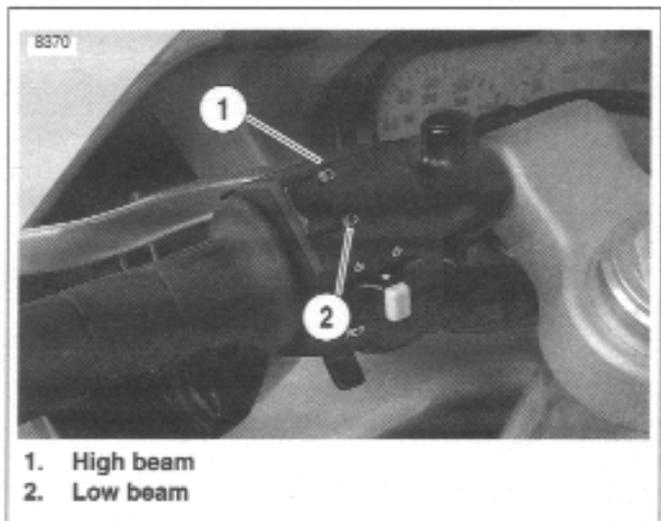

Figure 1-58. Headlamp Switch
a. See Figure 1-58. Turn ignition switch to IGN. Set handlebar headlamp switch to LOW beam position.
a. See Figure 1-58. Set handlebar headlamp switch to HIGH beam position.